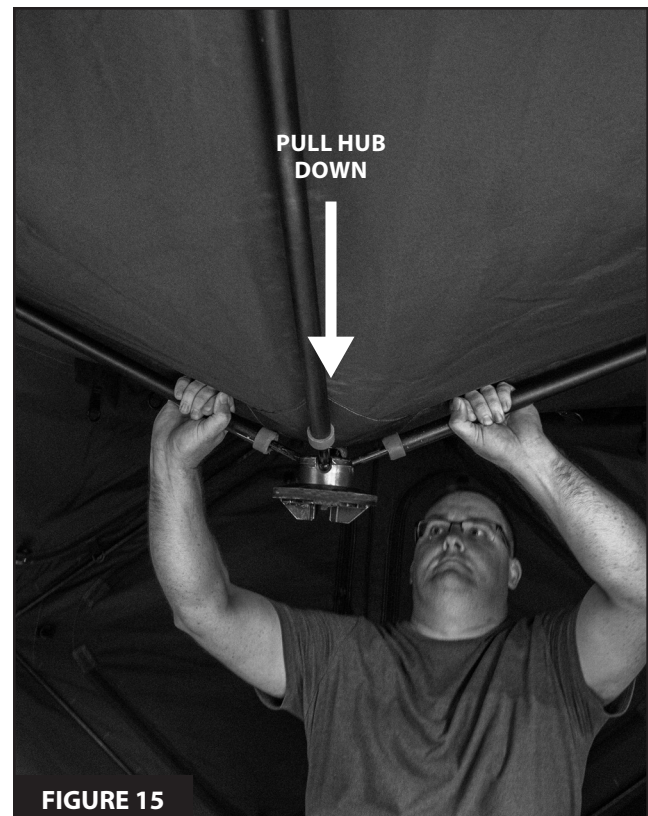

FIGURE 15
7. Carefully pull roof down by placing your hands on two roof poles opposite of each other. Place hands 4-6 inches away from center hub. **SEE FIGURE 15.**